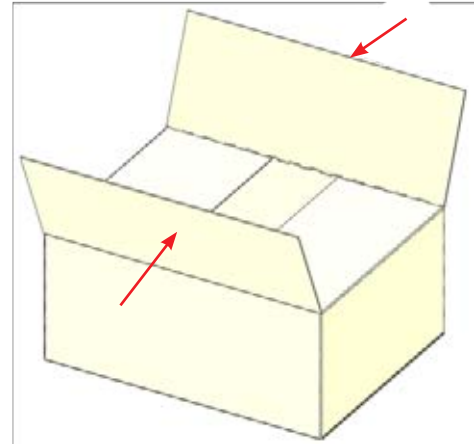

Figure 88: Folding Major Flaps
1. Fold minor flaps inward as shown in Figure 88